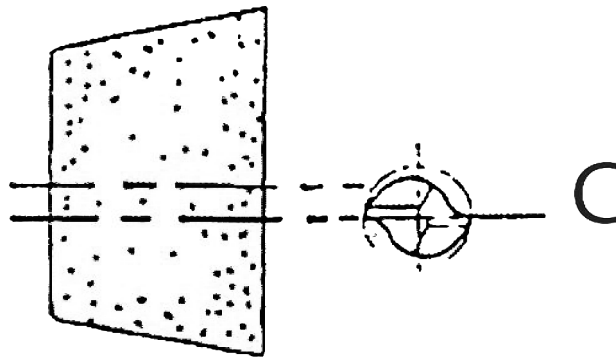

FIG. 5.10
4. Adjust the Grinding wheel's center to be on the same level of cutter's center. The grinding wheel center should be lifted up by a short amount of distance-C as shown in Figure 5.10. Please refer to page 15 (C) for calculation method of C.